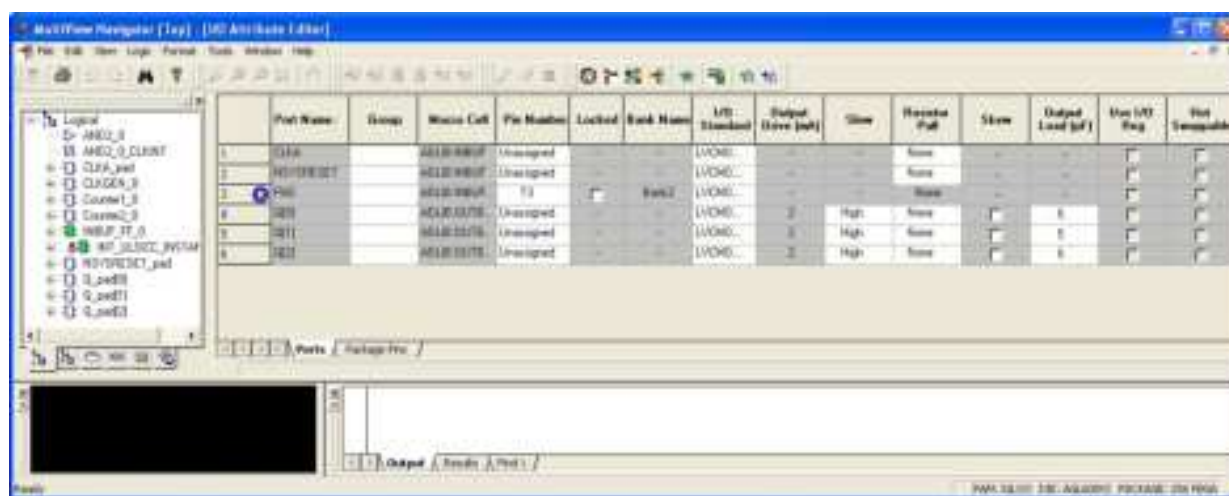

Figure 1-34 • I/O Editor in MultiView Navigator
9. Click the **I/O Attribute Editor** button in the Designer GUI to open the I/O Editor. The I/O Attribute Editor opens in the MultiView Navigator (Figure 1-34).